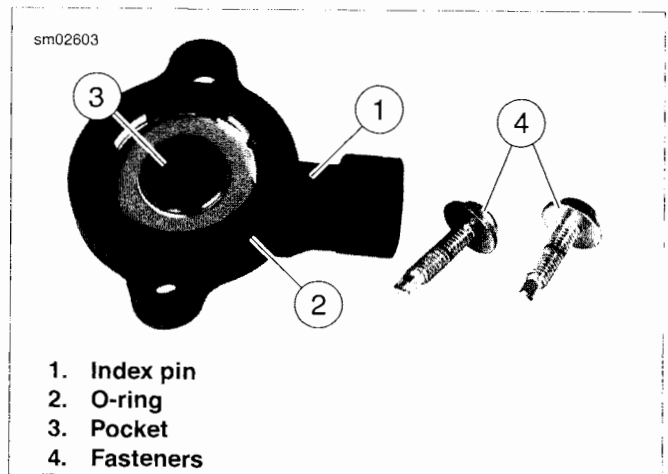

Figure 4-13. Throttle Position Sensor Installation
1. See Figure 4-13. Inspect O-ring (2) in groove of throttle position sensor for cuts, tears or signs of deterioration. Install **new** O-ring if necessary.
2. Fit pocket (3) of throttle position sensor over throttle shaft while engaging index pin (1) with hole on machined flange of induction module.
3. Install two **new** fasteners (4) to fasten throttle position sensor to induction module. Tighten screws to 18 **in-lbs** (2.0 Nm).